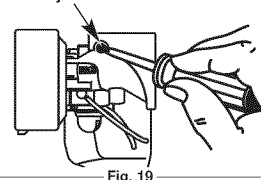

Fig. 19
The idle speed of the engine is adjustable. An idle adjustment screw is between the air filter cover and the engine starter housing (Fig. 19).
2. Release the throttle lever and let the engine idle. If the engine stops, insert a small Phillips in between the air filter cover and the engine cover (Fig. 19). Turn the idle speed screw in, clockwise, 1/8 of a turn at a time (as needed) until the engine idles smoothly.